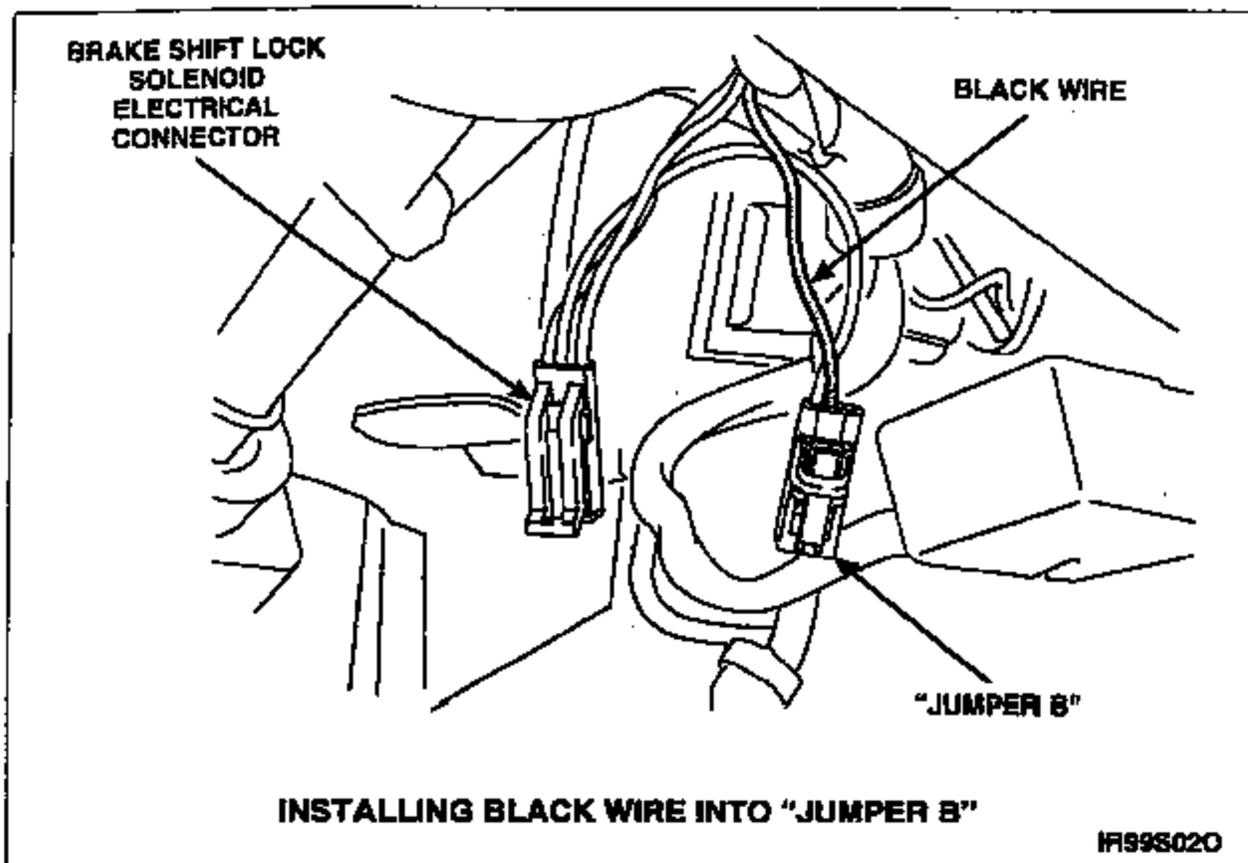

FIGURE 15
22. Install the black wire, circuit 57 (removed from the brake shift lock solenoid electrical connector) into either open slot of "Jumper B." See Figure 15.